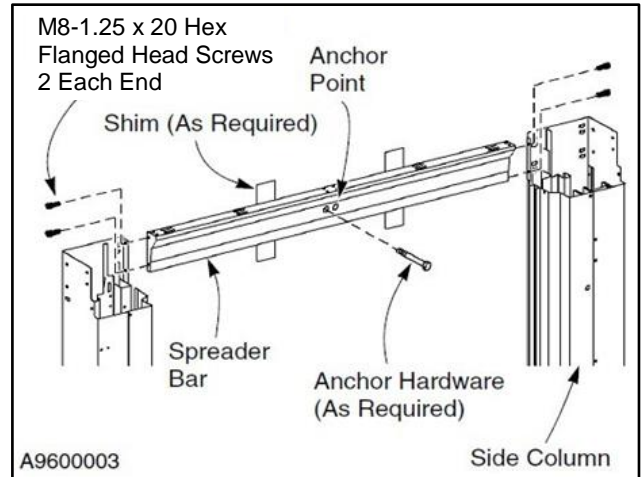

Figure 35
3. Inspect the hardware used to attach the spreader bar to the side columns. Tighten the hardware as required. Replace any missing or damaged hardware. (See Figure 35)